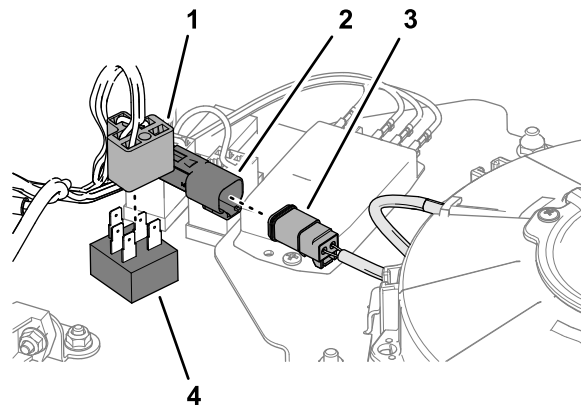

Figure 10
5. Connect the 2-pin connector of the kit wire harness into the 2-socket connector of the cooling-fan harness (Figure 10).
4. Connect the 5-pin connector of the fan switch into the 5-socket connector of the kit wire harness (Figure 10).